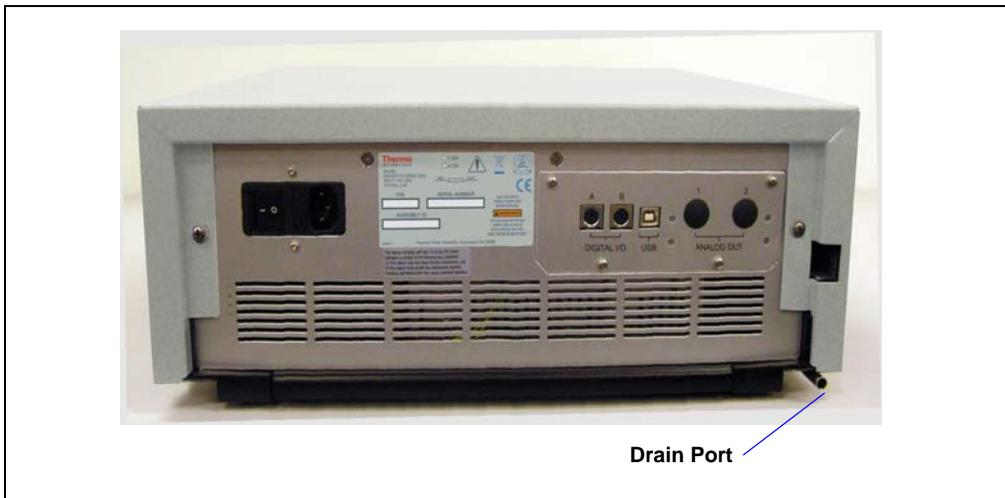

Figure B-6. Dionex VWD Rear Panel
Connect the drain tube (P/N 055075) to the drain port on the Dionex VWD rear panel (see Figure B-6). Place the free end of the tube in a waste container below the level of the workbench on which the Dionex VWD is installed.
Two digital I/O ports (A and B) on the Dionex VWD rear panel (see Figure B-6) provide four TTL inputs and four relay outputs for communication with external devices. The two ports are identical in function.
2. Connect a modular power cord (IEC 320 C13) from the Dionex VWD main power receptacle (see Figure B-6) to a grounded, single-phase power source. The power supply is auto-sensing: No adjustment is needed to select the line voltage.